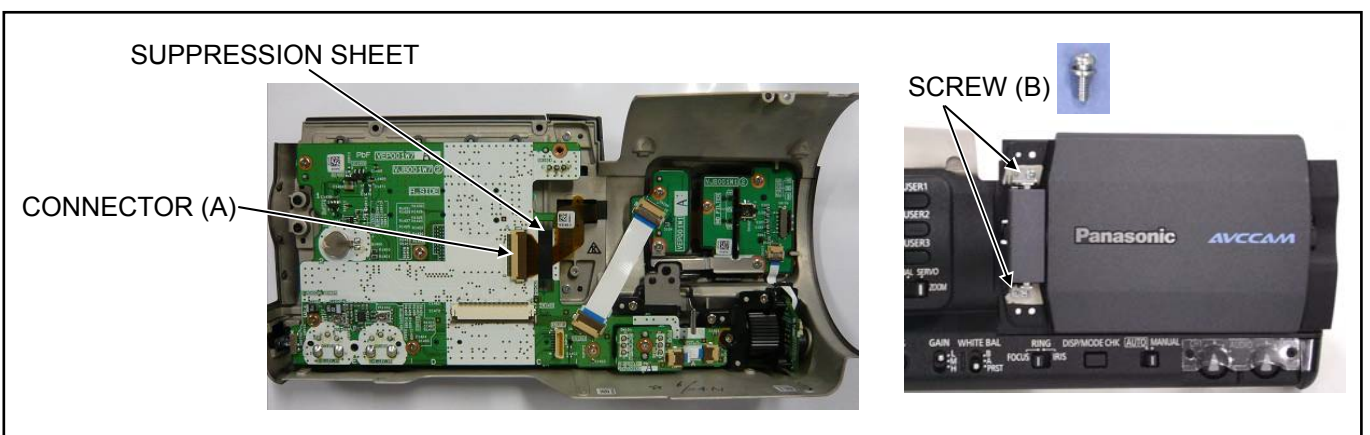

Figure 13-2
4. Remove the SUPPRESSION SHEET and connector (A) as shown in figure 13-2.
5. Disconnect a connector (A) and unscrew the 2 screws (B), and then remove the LCD Ass'y